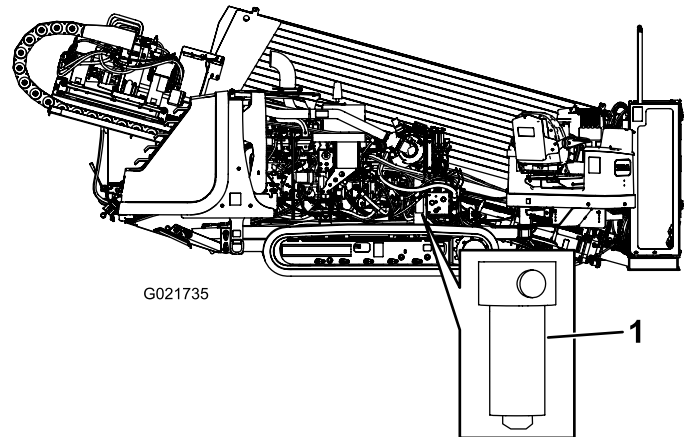

Figure 148
4. Using a filter wrench, remove the hydraulic-pressure filter (Figure 148).